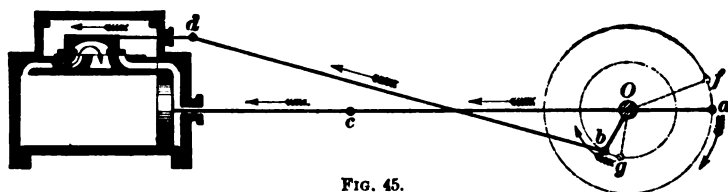

FIG. 45.
**50. Admission, Back End.**—In Fig. 45 the piston has reached the end of its outward stroke, and is about to begin the return stroke. The back outside edge of the valve is in line with the outside edge of the back steam port; hence, any movement of the valve to the front (i. e., to the left in the figure) will admit steam to the back end of the cylinder, and
**51. The Other Events of the Return Stroke.**—During the return stroke the events take place in the same order as on the outward stroke; that is, when the piston has moved along sufficiently to cause the slide valve to finish its stroke to the front and return on its back stroke to the position shown in Fig. 45, cut-off will take place. As the piston moves still farther to the front, the front inside edge of valve will again be in line with the inside edge of the front steam port; hence, this port will be closed to the exhaust and compression will occur. As the piston proceeds on its stroke, the back inside edge of the valve comes in line with the inner edge of the back steam port, and release takes place. When the valve moves backwards (i. e., to the right) far enough for the front outside edge of the valve to come in line with the outside edge of the front port, admission occurs at the front end.